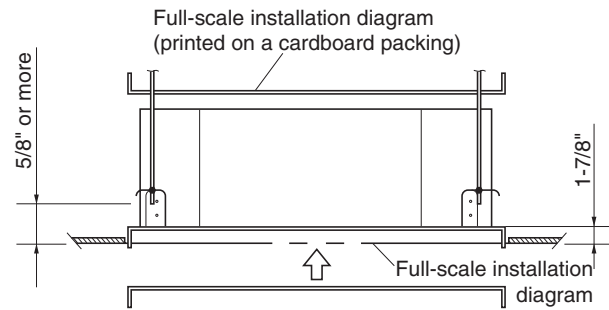

Fig. 1-15
- (1) When placing the unit inside the ceiling, determine the pitch of the suspension bolts using the supplied full-scale installation diagram. (Fig. 1-15)
The size of the opening for the indoor unit can be confirmed by attaching the full-scale installation diagram beneath the unit. (Fig. 1-15)
- (2) The length of each suspension bolt must be appropriate for a distance between the bottom of the bolt and the bottom of the ceiling of 5/8" or more as shown in Fig. 1-15.
- (4) Remove the protective cardboard used to protect the fan parts during transport.
- (5) Adjust the distance between the unit and surface of the ceiling. (1-7/8") (Fig. 1-15)